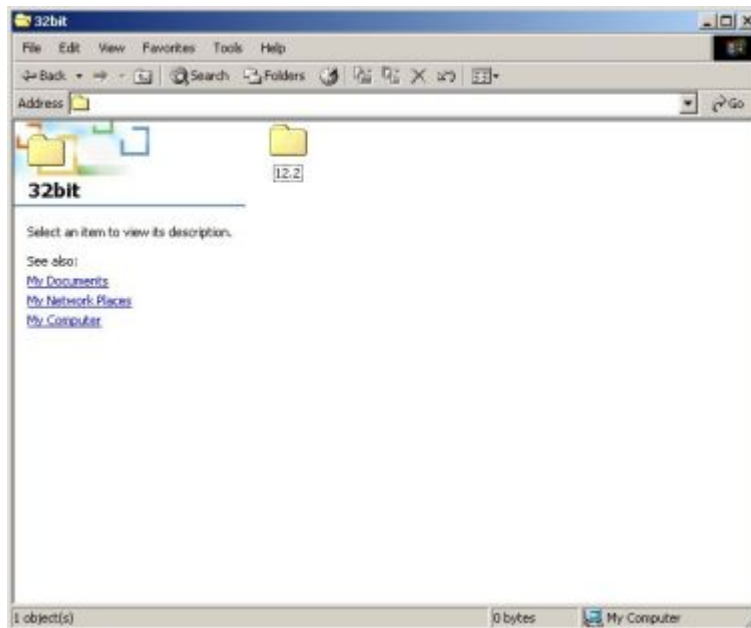

Figure 7-32: Driver Directory
Step 8: The window in **Figure 7-32** appears.
Step 10: A window containing the Intel® 82573 driver startup icon appears. See **Figure 7-32**.